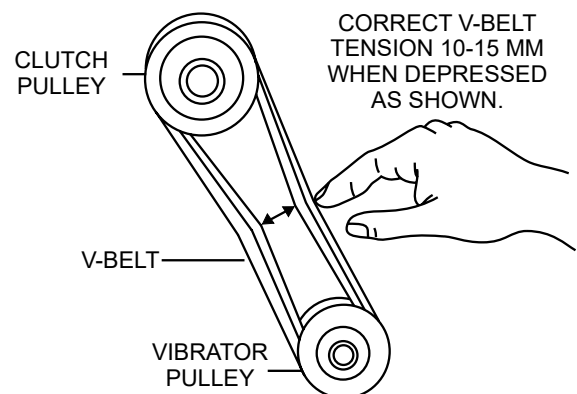

Figure 7. V-Belt Tension
2. Check the V-belt tension. The V-belt tension is proper if the V-belt bends 10 to 15 mm when depressed with finger at midway between the clutch and vibrator pulley. (Figure 7).